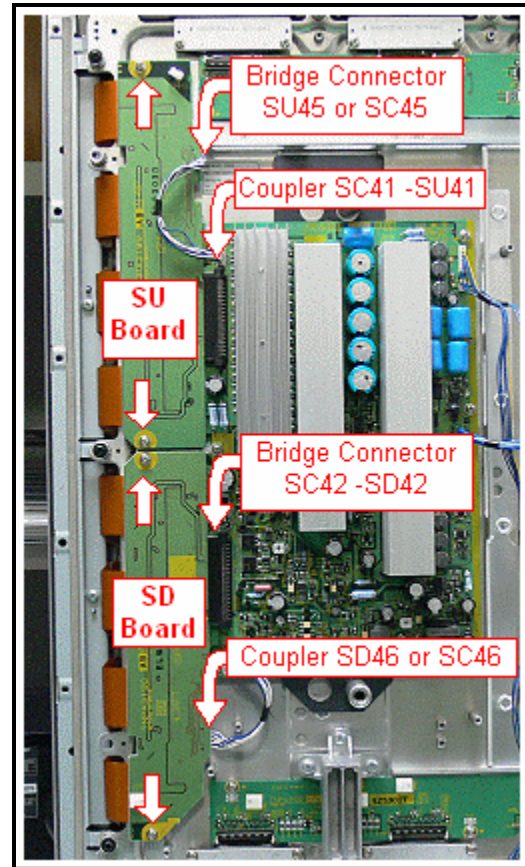

Figure 14. SU and SD boards
1. Remove the 2 screws of the SU board as indicated in figure 14.
1. Remove the two screws of the SD board as indicated in figure 14.